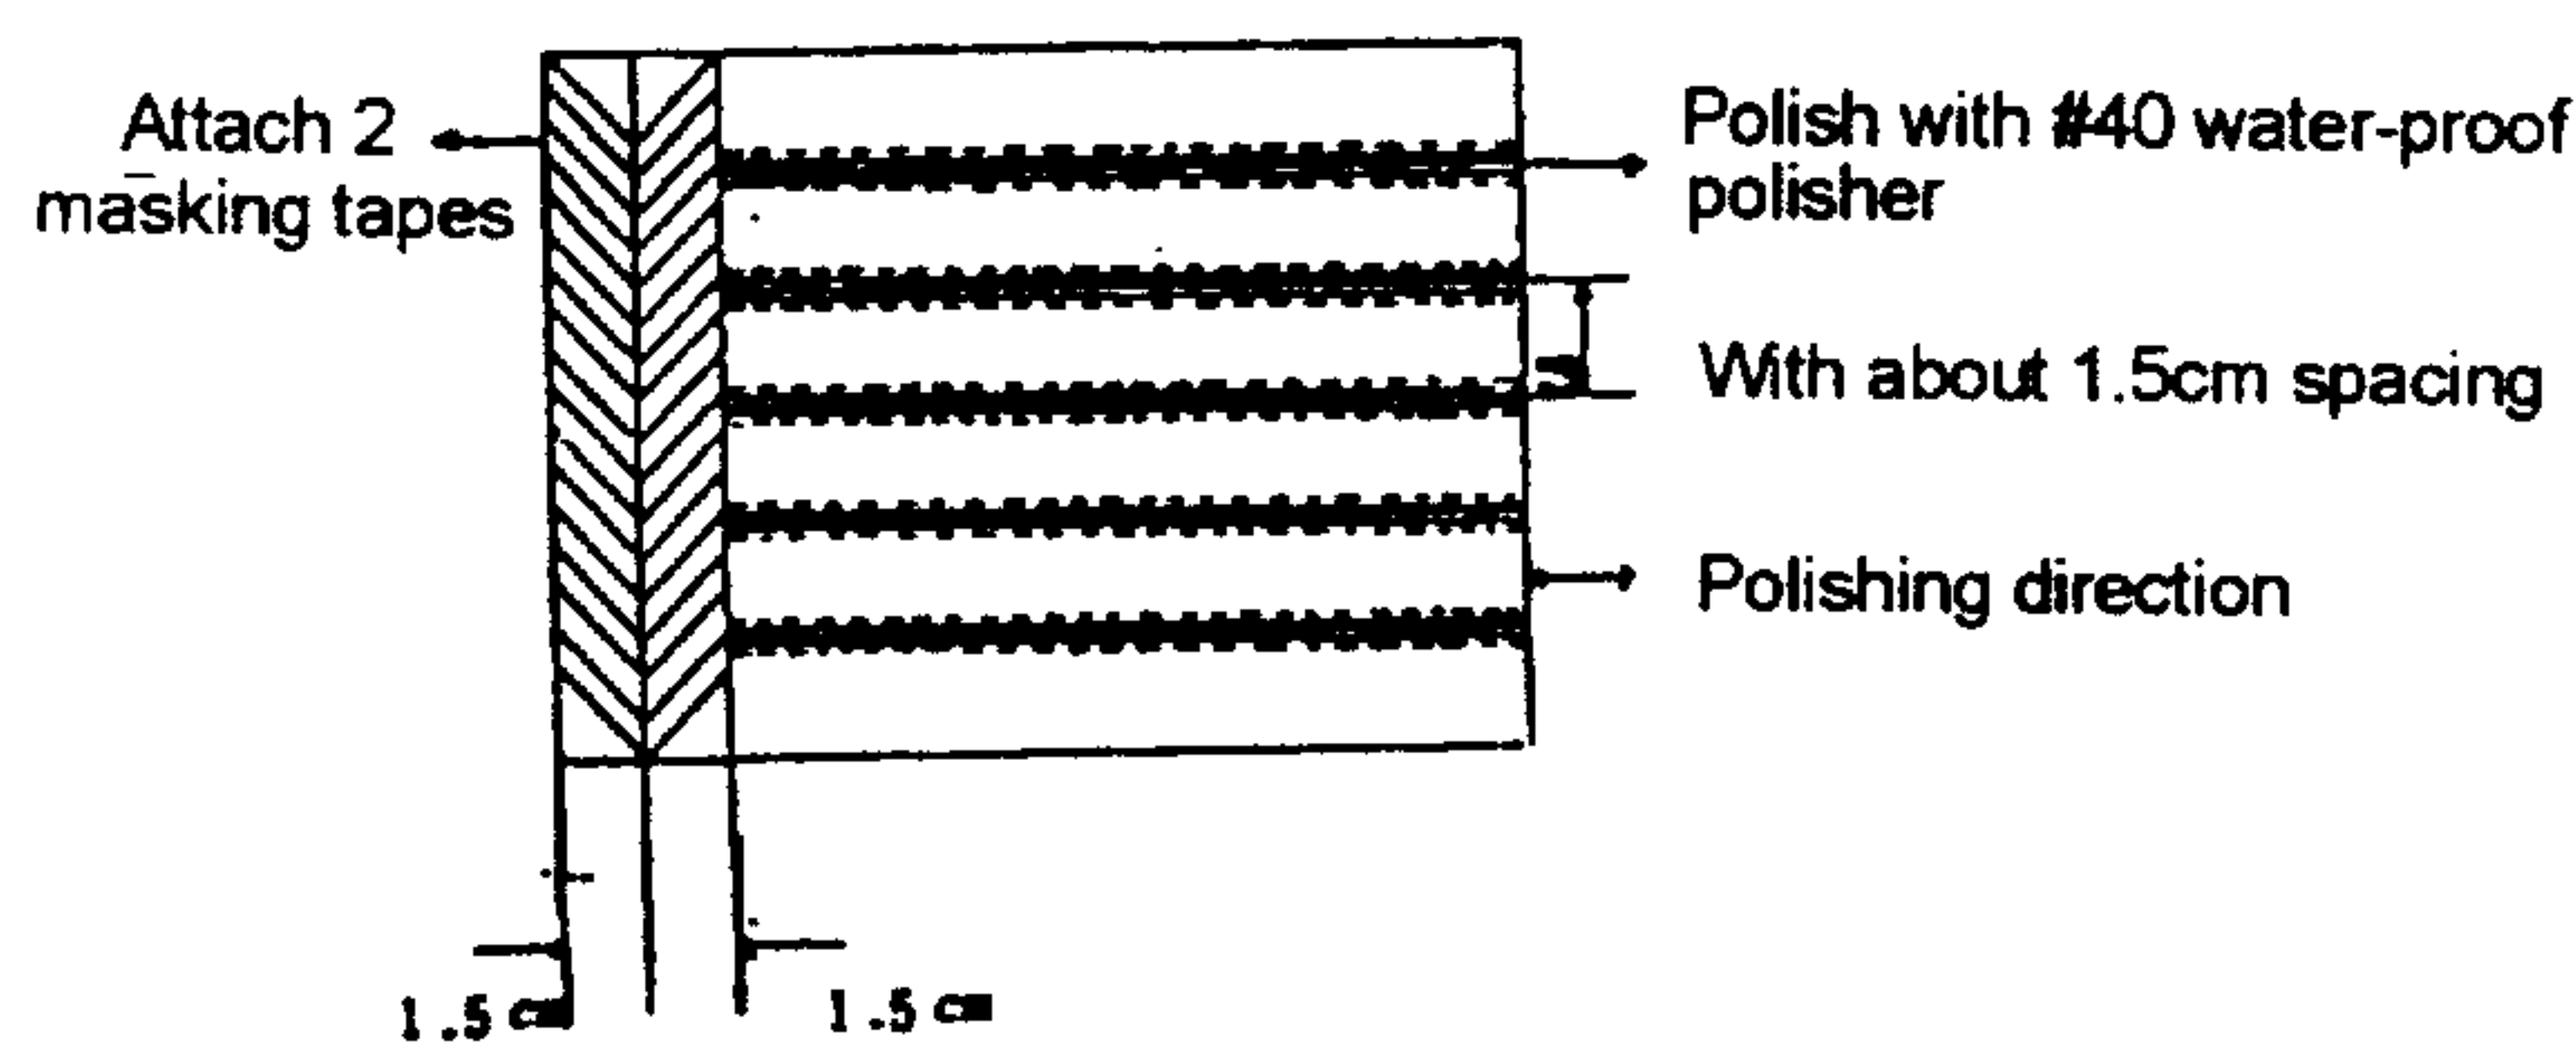

Figure 3
- (1) After polishing, attach masking tape.
- (2) Polished position can be checked after masking tape is removed.
- (3) Polish to the cross direction of sample as figure 3.